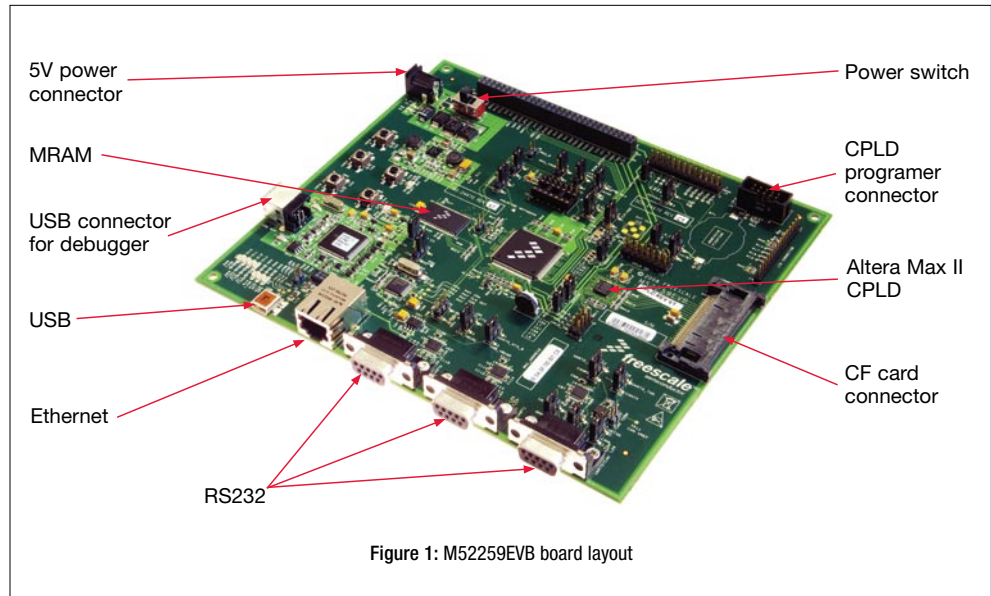
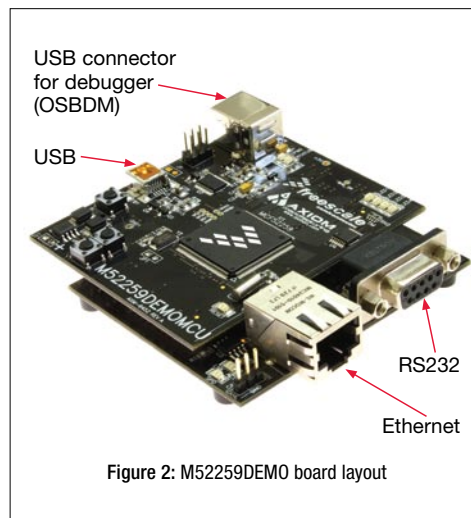

Figure 1: M52259EVB board layout
Figure 2: M52259DEMO board layout
1. Make the following connections from the MCF52259 board to the computer. See Figure 1 and Figure 2.